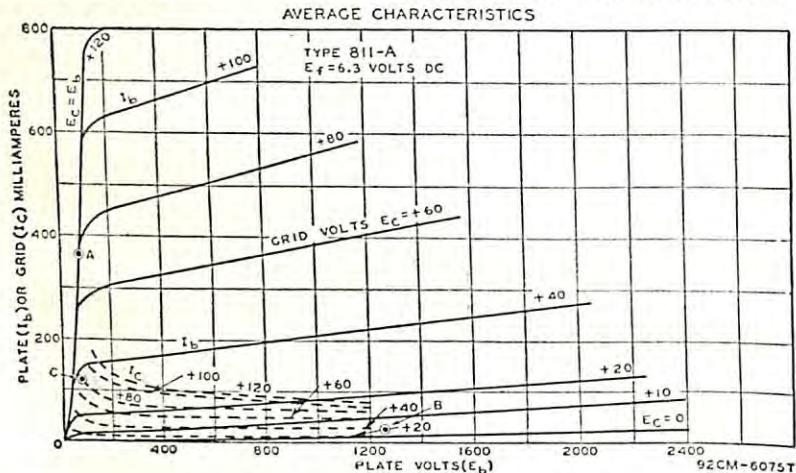

Fig. 48
Calculate operating values for the RCA-811A for linear rf power amplifier service under ICAS conditions. Refer to Fig. 48 for curve values.
- (1) Select $E_b = 1250$ volts.
- (2) Calculate: $I_{b_e} = 0.9 P_{ine} / E_b = 0.9 \times 165 / 1250 = 0.12$ ampere.
- (3) Calculate: $I_{b_{max}} = 3 I_{b_e} = 3 \times 0.12 = 0.36$ ampere.
- (4) Calculate: $I_b = I_{b_e} / 1.4 = 0.12 / 1.4 = 0.09$ ampere.
- (5) On Fig. 48 locate $I_{b_{max}} = 0.36$ ampere at Point A. Read $E_{c_{max}} = 80$ volts; $E_{b_{min}} = 80$ volts.
- (6) Calculate $I_{b_0} = I_{b_e} / 5 = 0.12 / 5 = 0.024$ ampere.
- (7) $P_{ine} = E_b I_{b_e} = 1250 \times 0.120 = 150$ watts.
- (8) Calculate: $PEP = (I_{b_{max}} / 4) (E_b - E_{b_{min}}) = (0.36 / 4) (1250 - 80) = 0.09 (1170) = 105$ watts.
- (9) $P_p = 0.7 P_{ine} - 0.5 PEP = (0.7) 150 - (0.5) 105 = 52.5$ watts.
- (10) Record: $E_g = E_{c_{max}} = 80$ volts.
- (11) On Fig. 48 locate $I_{c_{max}} = 0.12$ ampere at Point C.
- (12) Calculate: $I_{c_e} = I_{c_{max}} / 3 = 0.12 / 3 = 0.04$ ampere.
- (13) Calculate: $I_c = I_{c_e} / 1.4 = 0.04 / 1.4 = 0.028$ ampere.
- (14) Calculate: $P_d = E_g (I_{c_{max}} / 4) = 80 (0.12 / 4) = 2.4$ watts.